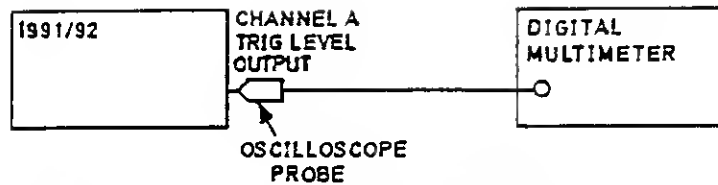

Figure 6.37 - Connections for Trigger Level PVP (II)
- a. Connect the test equipment as shown in Figure 6.37